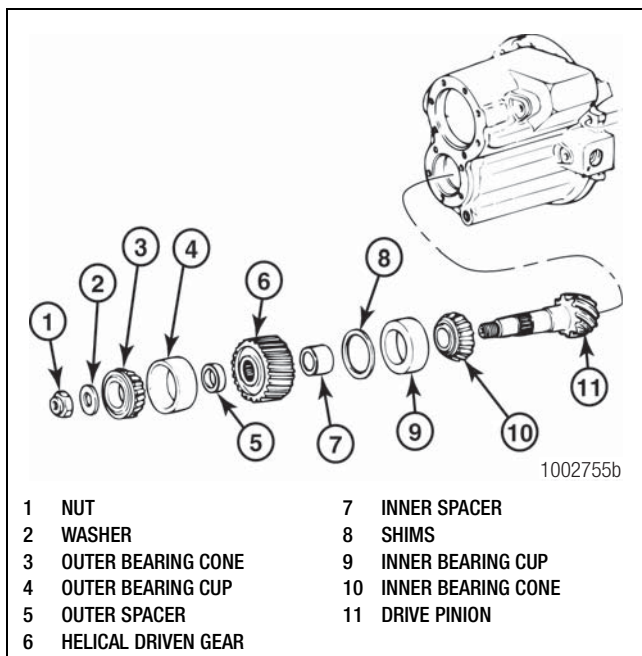

Figure 3.51
1. Remove the nut and washer from the drive pinion. You loosened the drive pinion nut when you removed the input shaft assembly. Figure 3.51.